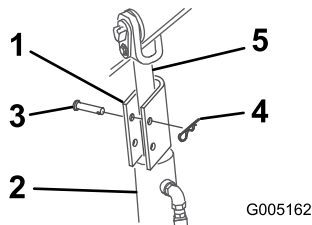

Figure 25
4. Position a cylinder lock over each lift-cylinder rod (Figure 25).
5. Secure each cylinder lock with a clevis pin and cotter pin (Figure 25).